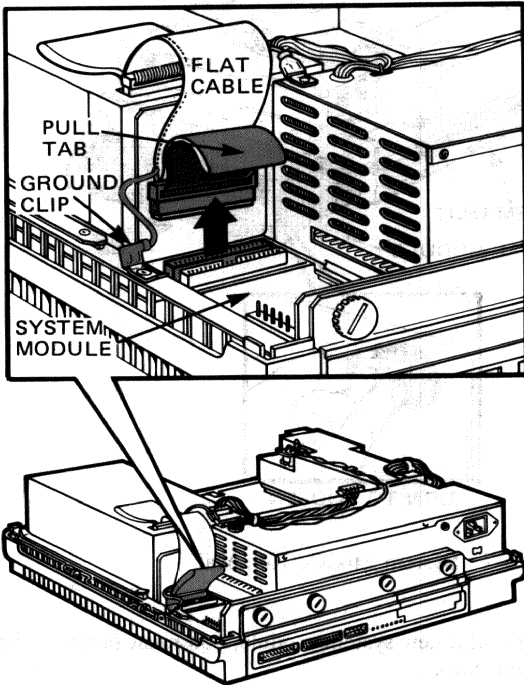

Figure 5-6 Diskette Drive Flat Cable Removal
8. Unplug the diskette drive flat cable(s) as shown in Figure 5-6. Leave the ground clip(s) attached.